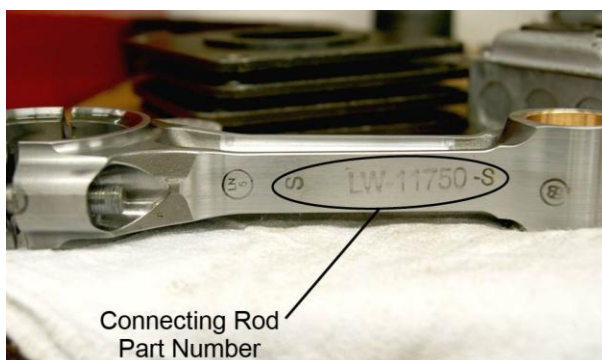
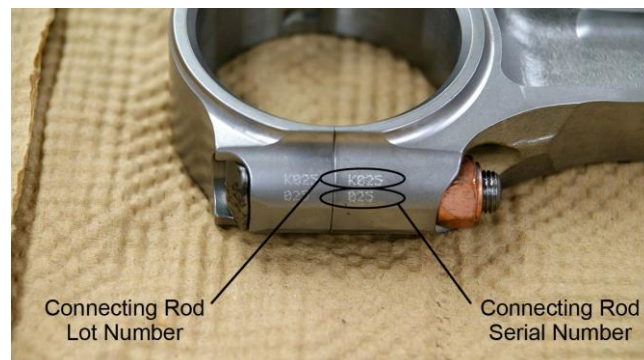

Figure 10
Figure 11
- (3) Install the replacement connecting rod with new connecting rod bearings per instructions in the “Connecting Rod Installation” procedure in this Service Bulletin.
- (4) Reinstall the piston, piston pin, piston pin plugs, and cylinder per instructions in the applicable Lycoming Engines’ manual.
- (5) Record the results of the “Connecting Rod Bushing Press-Out Verification Procedure” and the part number (Figure 10), lot number, and serial number (Figure 11) of each connecting rod on Lycoming Engines’ online survey at www.lycoming.com/SB632.
- (1) Order new parts as necessary. Refer to the “Parts Required Table” in the Parts Required for Reassembly section of this Service Bulletin.
- (2) Reinstall the piston, piston pin, piston pin plugs, and cylinder per instructions in the applicable Lycoming Engines’ manual.
- (3) Record the results of the “Connecting Rod Bushing Press-Out Verification Procedure” and the part number (Figure 10), lot number, and serial number (Figure 11) of each connecting rod on Lycoming Engines’ online survey at www.lycoming.com/SB632.